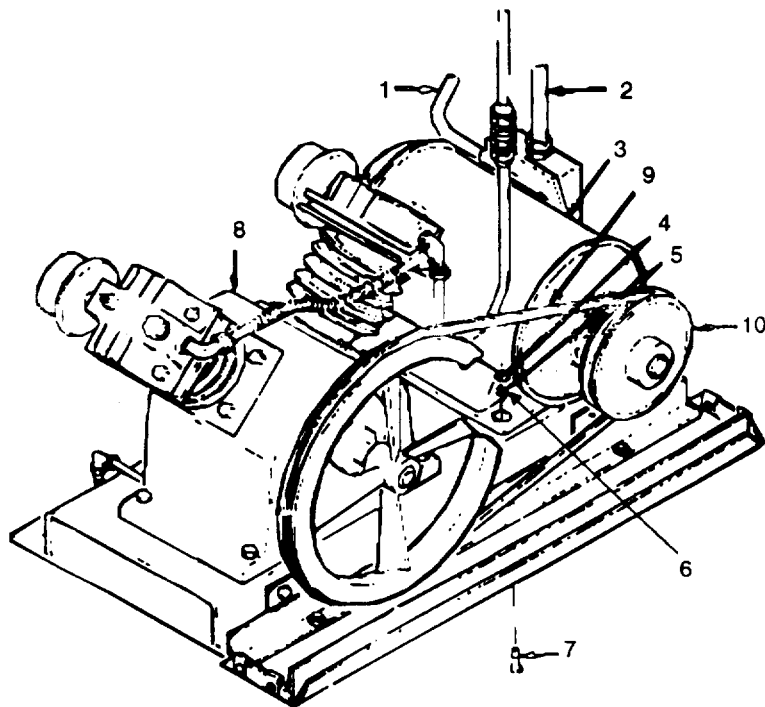
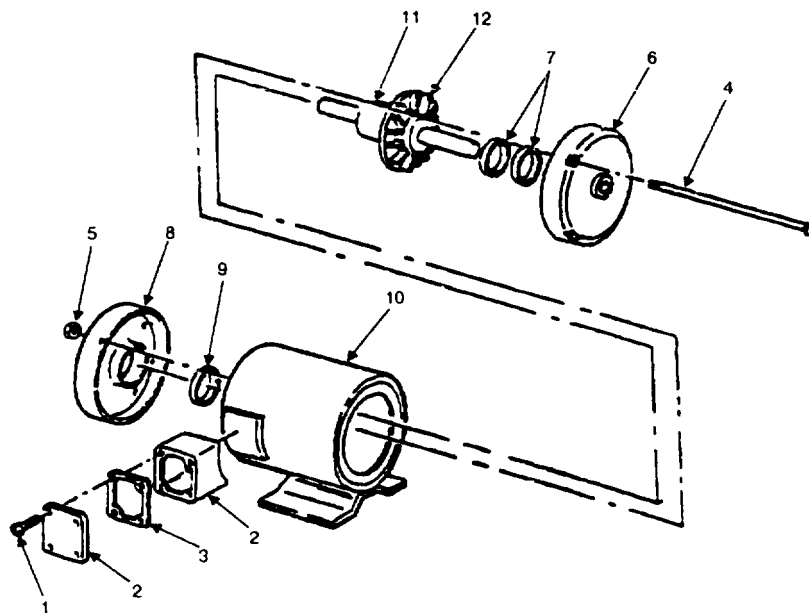

Figure 5-4. Air Compressor Motor - Removal/Installation.
Figure 5-5. Air Compressor Motor - Disassembly and Assembly.
**a. Removal.** (Refer to figures 5-4 and 5-5.)
- (1) Remove four screws (1, fig. 5-5), cover plate of outlet conduit (2), and gasket (3) of motor.
- (2) Tag and disconnect wiring of cable assembly (1 and 2, fig 5-4) to motor (3). Remove box connectors of cable assemblies (1 and 2) from motor and remove the cable assemblies.
- (3) Remove four hexagon nuts (4), four lockwashers (5), four flat washers (6), and four shoulder bolts (7).
- (4) Slide motor toward air compressor (8) until V-belt (9) can be removed from pulley (10).
- (5) Remove V-belt (9) and motor (3). Remove pin from pulley (10) and remove pulley from motor.
**b. Disassembly.** (Refer to figure 5-5.)
- (1) Remove four machine bolts (4) and four hexagon nuts (5).
- (2) Remove front end plate (6), two bearing covers (7), rear end plate (8), and wave washer (9) from motor stator (10). Remove shaft assembly (11) and impeller fan (12) as an assembly from motor stator (10).
### e. Assembly. (Refer to figure 5-5.)
### f. Installation. (Refer to figure 5-4).
- (1) Place pulley (10) on motor (3) and align pin holes in pulley and motor shaft assembly. install pin in pin holes.
- (2) Place motor (3) close to air compressor (8) and slip V-belt (9) over the motor pulley (10) and air compressor pulley.
- (3) Install but not tighten four shoulder bolts(7), four flat washers (6), four lockwashers (5), and four hexagon nuts (4). Pull motor (3) away from air compressor (8) so that belt tension deflection at midpoint is 3/8 to 1/2 inch. Tighten hexagon nuts (4) once correct belt tension is obtained.
- (4) Pull tagged wiring of cable assembly (1 and 2) through mounting hole of outlet conduit. Install box connectors of cable assemblies (1 and 2) to outlet conduit of motor (3). Connect tagged wiring of cable assemblies (1 and 2) to motor (3).
- (5) Install gasket (3, fig. 5-5) cover plate of outlet conduit (2), and four screws (1).
- (6) Run air compressor 20 minutes. Clean grease expelled from motor.